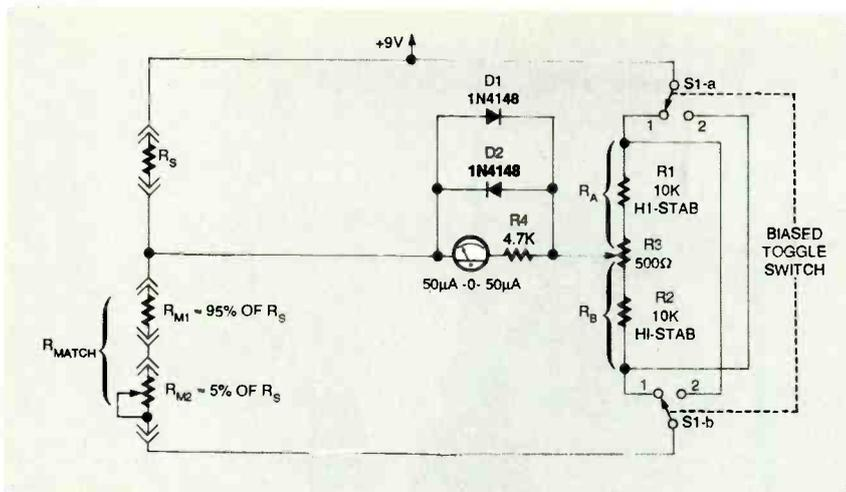

FIG. 2—THIS RESISTANCE-MATCHING bridge will match resistors within $\pm 0.1\%$.
The DC resistance-matching bridge, shown in Fig. 2 is another important bridge. This simple circuit permits resistors to be matched to within $\pm 0.1\%$ or better. This bridge is based on two basic principles: (1) If R_A and R_B are equal, the value of R_{MATCH} will equal that of R_S at balance; (2) If R_A and R_B are equal, they will generate the same output voltage, regardless of the way they are connected across the power supply.